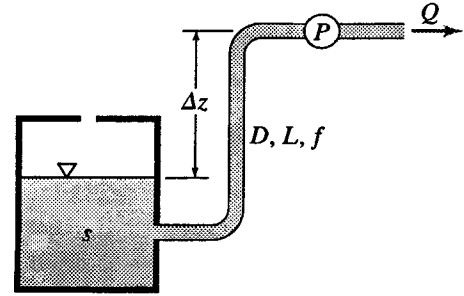

Figure P15.41
15.41 A centrifugal pump with  $(N_s)_{SI} = 1.48$  is to pump 30 L/s of gasoline ( $s = 0.82$ , vapor pressure = 32 kPa) from an open tank (Fig. P15.41). The pump impeller rotates at 157 rad/s. Assuming the free surface in the tank is at elevation 100.0 m and the barometric pressure is 101 kPa abs, what is the highest elevation at which the pump centerline may be placed without cavitation problems? The suction pipe ( $f = 0.022$ ) is 40 m long and has a diameter of 120 mm. Assume square entrance conditions where the pipe takes off from the tank. Express the answer in terms of  $h$ .